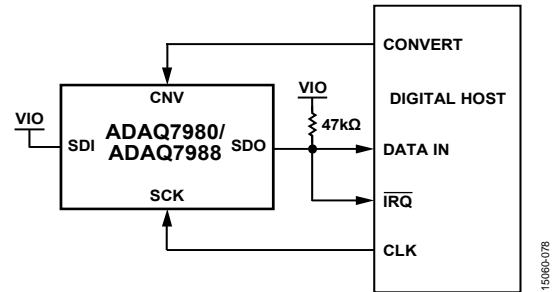
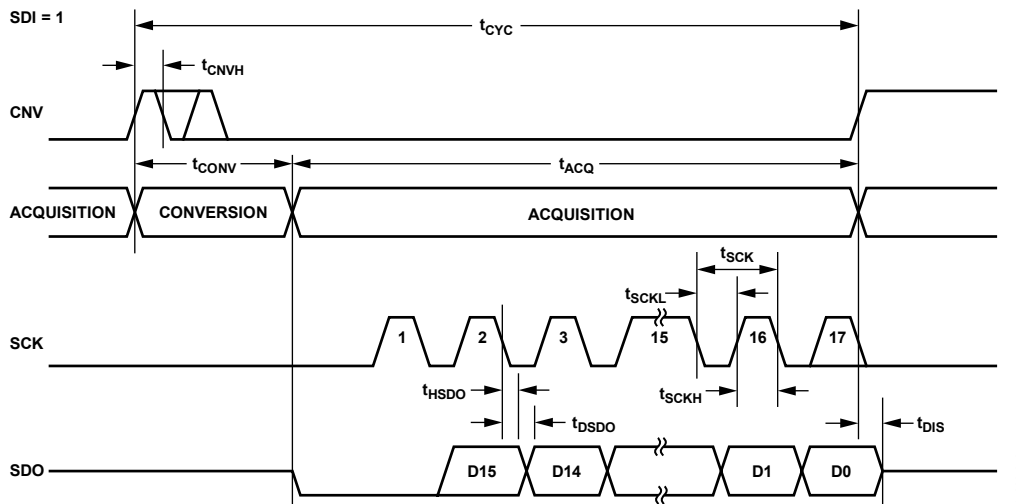
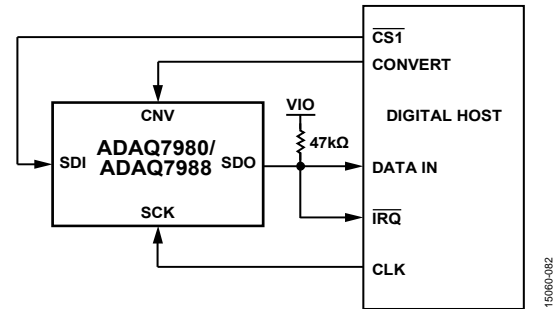
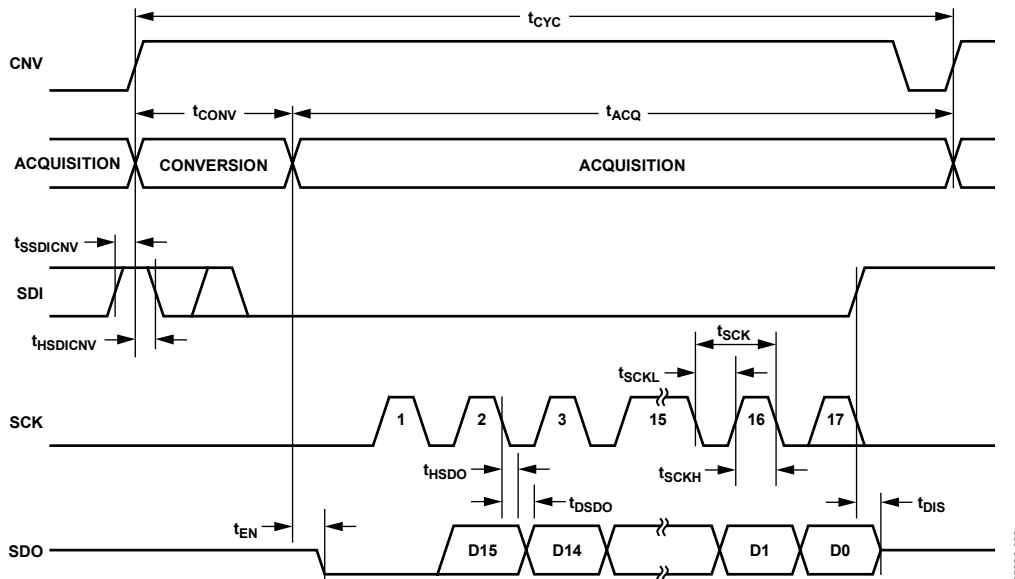

Figure 73. 3-Wire $\overline{\text{CS}}$ Mode with the Busy Indicator Connection Diagram (SDI = 1, High)
Figure 74. 3-Wire $\overline{\text{CS}}$ Mode with the Busy Indicator Serial Interface Timing (SDI = 1, High)
Figure 77. 4-Wire \overline{CS} Mode with the Busy Indicator Connection Diagram
Figure 78. 4-Wire \overline{CS} Mode with the Busy Indicator Serial Interface Timing
- In $\overline{\text{CS}}$ mode if CNV or SDI is low when the ADC conversion ends (see Figure 74 and Figure 78).
Figure 73 shows the connection diagram, and Figure 74 shows the corresponding timing.
Figure 77 shows the connection diagram, and Figure 78 shows the corresponding timing.